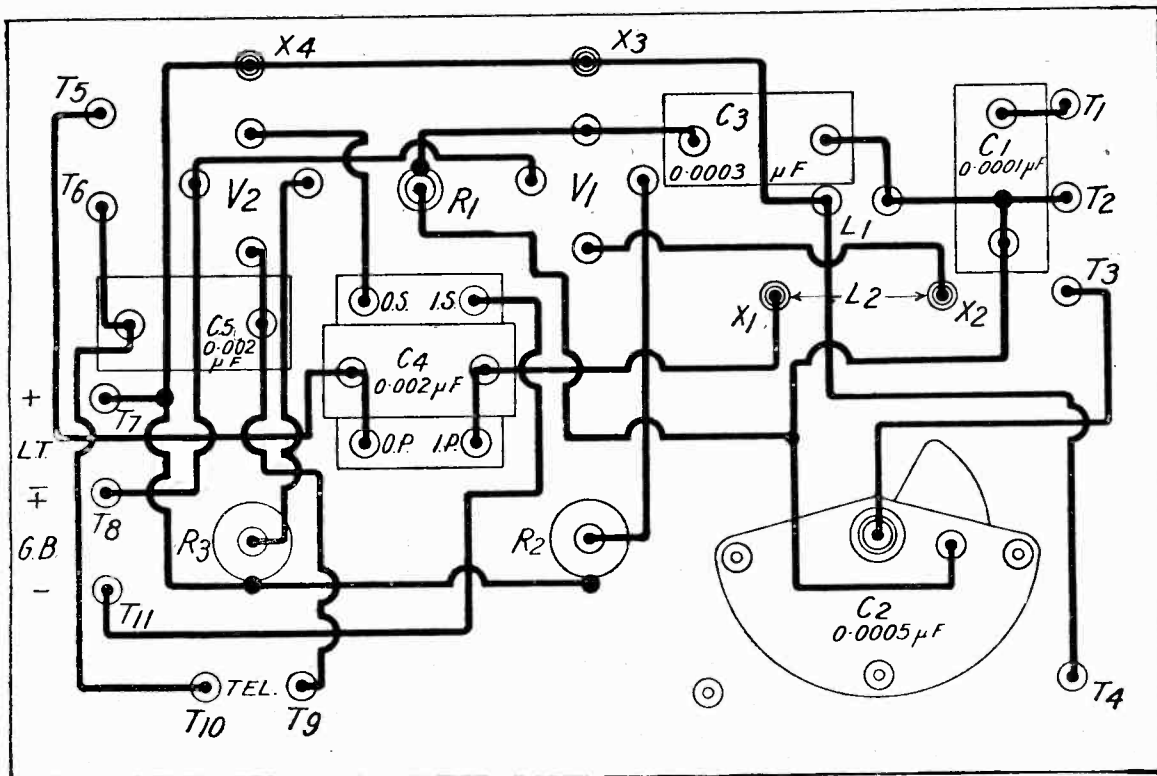

Fig. 7.—The wiring of the receiver. The lettering conforms with that of Fig. 2.
- No. 47B.—Back of panel (Fig. 7).